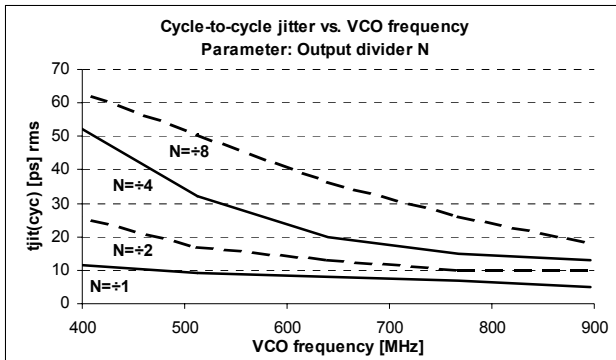
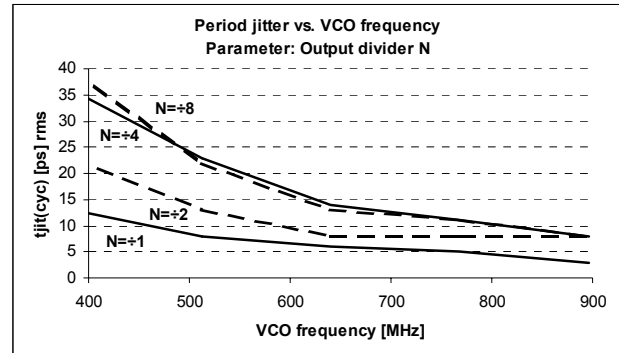

Figure 4. MPC92439 Cycle-to-cycle Jitter
Figure 5. MPC92439 Period Jitter
4. Maximum cycle jitter measured at the lowest VCO frequency. Figure 4 shows the cycle jitter vs. frequency characteristics
5. Maximum period jitter measured at the lowest VCO frequency. Figure 5 shows the period jitter vs. frequency characteristics
Figure 4 and Figure 5 illustrate the RMS jitter performance of the MPC92439 across its specified VCO frequency range. The cycle-to-cycle and period jitter is a function of the VCO frequency and the output divider N. The general trend is that as the output frequency increases (higher VCO frequency and lower N-divider) the MPC92439 output jitter decreases. Optimum jitter performance can be achieved at higher VCO and output frequencies. The maximum cycle-to-cycle and period jitter published in Table 7 correspond to the jitter performance at the lowest VCO frequency limit).